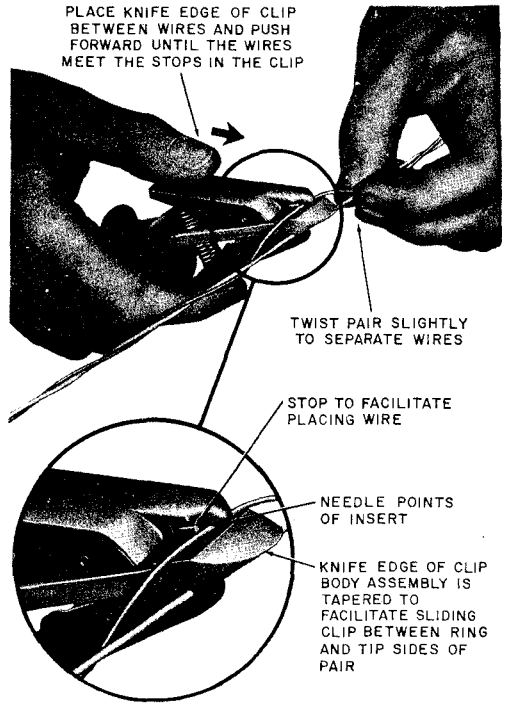

Fig. 3 — Engaging Cable Clips
3.01 To engage a clip onto a cable pair, twist the pair slightly to spread the wires, place the knife edge of the clip in the opening, and push the clip forward until the wires meet the stops in the clip as shown in Fig. 3.